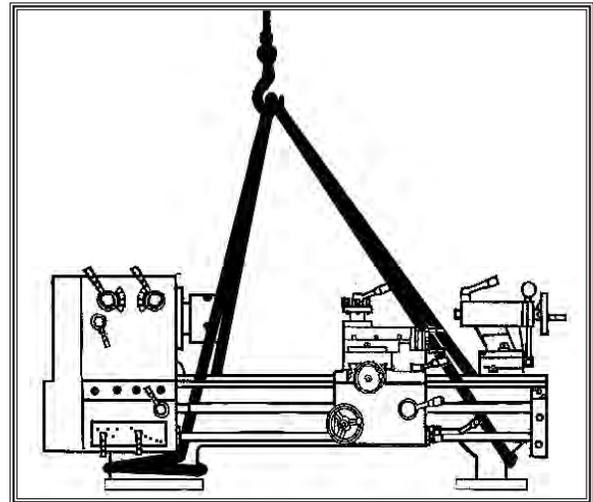

Figure 9. Lifting strap locations.
1. Wrap two lifting straps around the bedway pedestals and route them behind the feed rod, control rod, and the lead screw, as shown in **Figure 9**.
2. Move the apron toward the right to help balance the load, as shown in **Figure 9**.